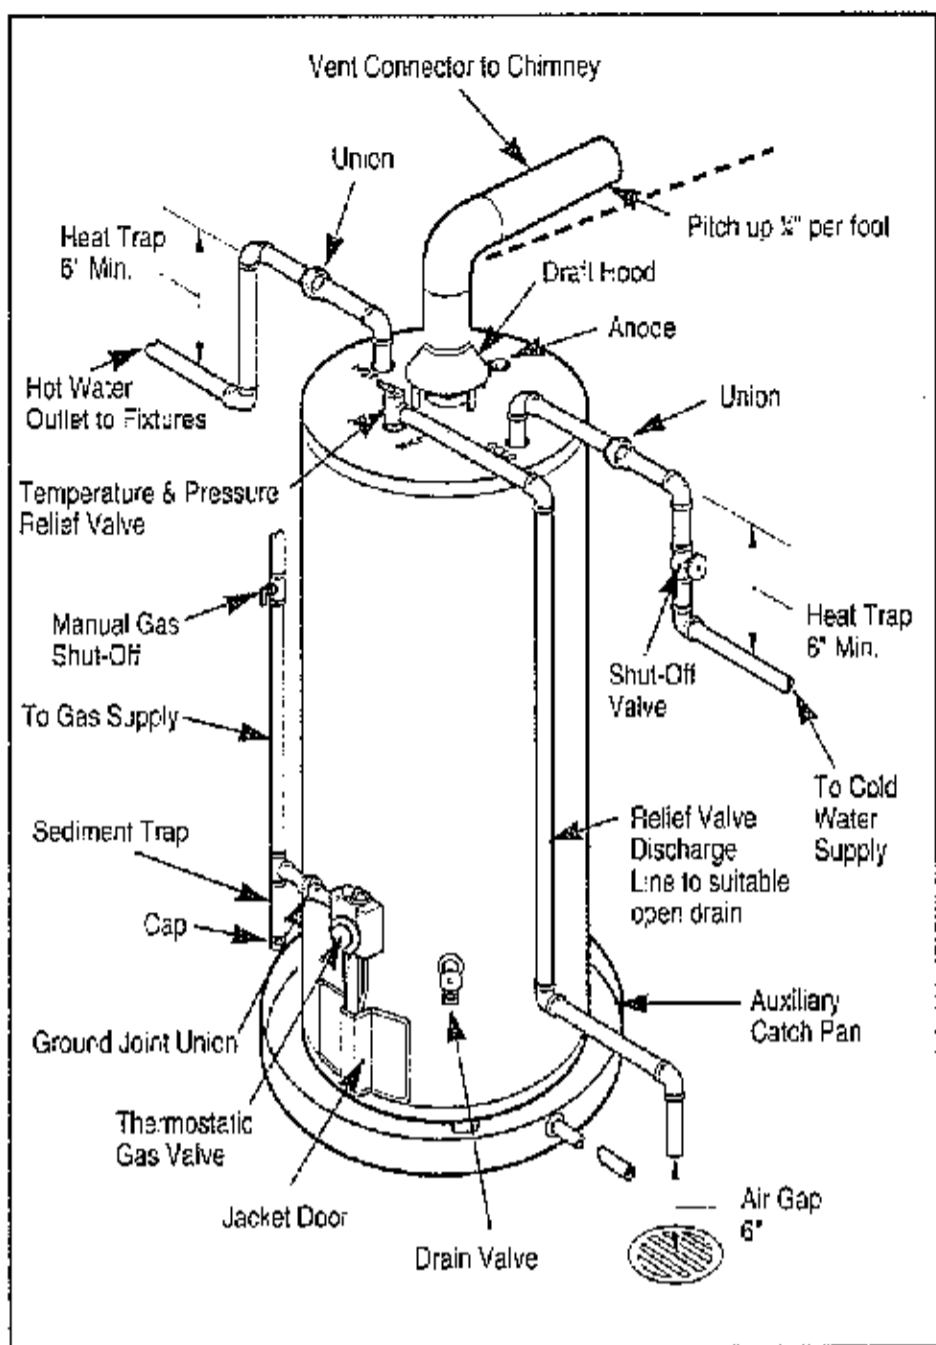

Figure 4. — Typical Installation
- 2. WATER SUPPLY CONNECTIONS**— Refer to Fig. 4 for suggested typical installation. The installation of unions or flexible copper connectors is recommended on the HOT and COLD water lines, so that the water heater may be easily disconnected for servicing if necessary. The HOT and COLD water connections are clearly marked.
3. **RELIEF VALVE**—A new combination pressure and temperature relief valve, complying with the Standard for Relief Valves and Automatic Gas Shutoff Devices for Hot Water Supply Systems, ANSI Z21.22, must be installed in the opening provided on the water heater, at the time of installation. (Refer to Fig. 4.) No valve of any type should be installed between the relief valve and the tank. Local codes shall govern the installation of relief valves.
5. **GAS SUPPLY**—The branch gas supply line to the water heater should be clean  $\frac{1}{2}$ " black steel pipe or other approved gas piping material. A ground joint union or ANSI design certified semi-rigid or flexible gas appliance connector should be installed in gas line close to the water heater, and a manual gas shut-off valve should be installed in the gas line prior to the union. The manual gas shut-off valve should be at least 5 feet above the floor and readily accessible for turning on or off. A sediment trap should be installed at bottom of the gas line. (Refer to Fig. 4)
6. **LEAK TESTING**—The water heater and its gas connections must be leak tested at normal operating pressures before it is placed in operation. Turn on the manual gas shut-off valve near the water heater (Refer to Fig.4). Use a soapy water solution to test for leaks at all connections and fittings. Bubbles indicate a gas leak that must be corrected. The factory connections to the thermostat should also be leak tested after the water heater is placed in operation.
The water heater must be isolated from the gas piping system by closing the manual gas shut-off valve (Refer to Fig. 4), during any pressure testing of the gas supply piping at pressures equal to or less than  $\frac{1}{2}$  psi (14" W.C.).
7. **VENTING**—This water heater must be installed with the factory supplied draft hood in place. (Refer to Fig. 4.) Vent connectors must be attached to the draft hood outlet to connect the water heater to the gas vent or chimney. The vent connectors must be the same size (diameter) as the draft hood outlet or larger, never smaller. For proper venting in certain installations a larger vent connector size may be needed. Consult Vent Tables in Appendix "G" of the latest version of the National Fuel Gas Code (ANSI booklet Z223.1 or NFPA booklet 54).